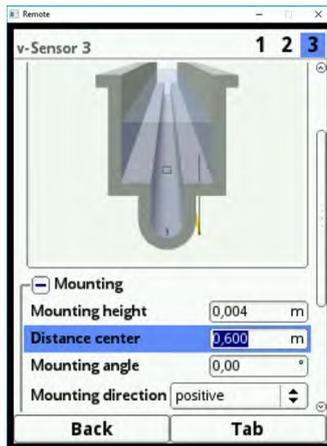

Fig. 23-21 Mounting height of v-Sensor too low
2. Verify the correct specifications in the application graph. The application graph is a useful aid to visualise the correct specification of the v-sensors. Fig. 23-21 shows that the berm has not been considered while setting the mounting height. The v-sensor is located below the channel bottom in the application graph.